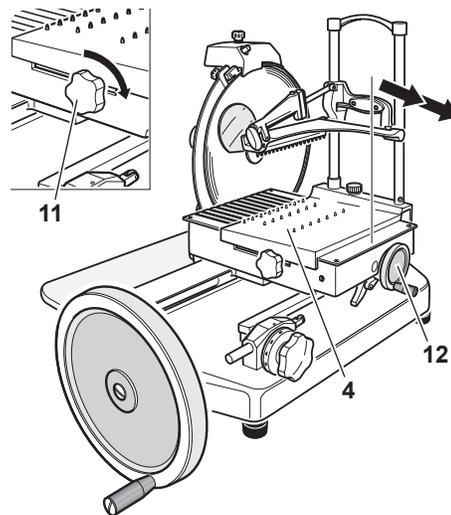

Figure 11-2
2. Turn the product holder operating handwheel (12) or the fast forward knob (11) clockwise to move the product holder (4) away from the knife (Figure 11-2).